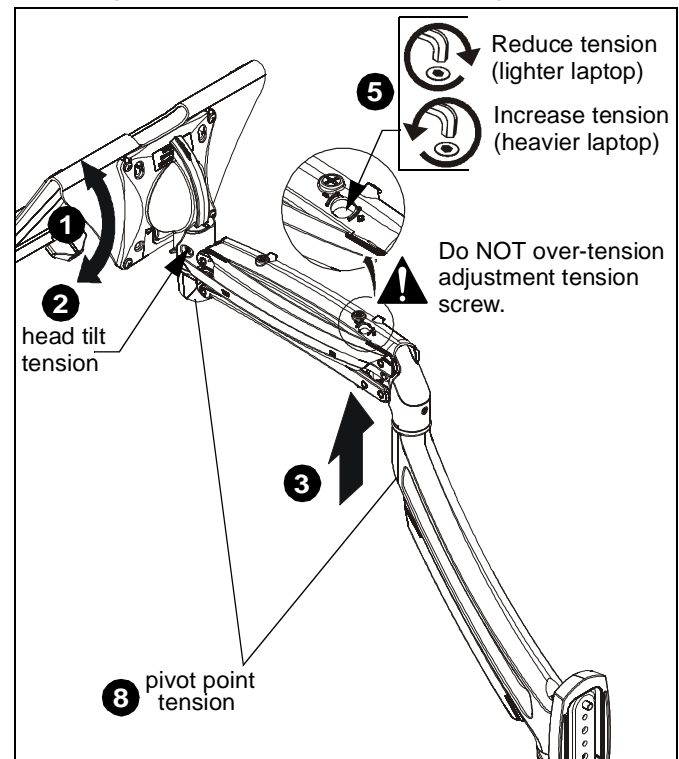

Figure 5
- Adjust head tilt to desired tilt position. (See Figure 5)
- Adjust head tilt tension screw to change the adjustment tension. (See Figure 5)
- Adjust arm height to its maximum height level. (See Figure 5)
- Use 1/8" hex key (F) to adjust height-adjustment tension screw to change adjustment tension. (See Figure 5)
- Adjust pivot position as desired. (See Figure 5)
- Use 3/16" hex key (E) to adjust pivot point tension screws to change pivot adjustment tension. (See Figure 5)